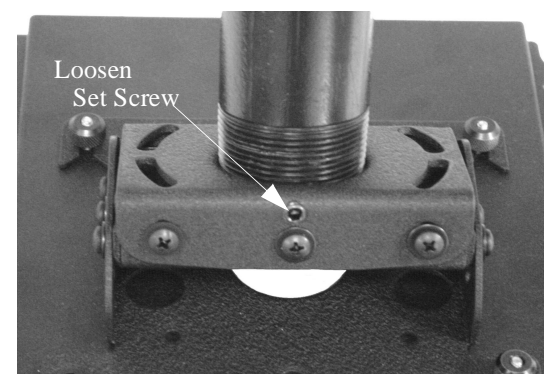

Figure 14. Yaw Adjustment
1. Loosen the set screw (see Figure 14).